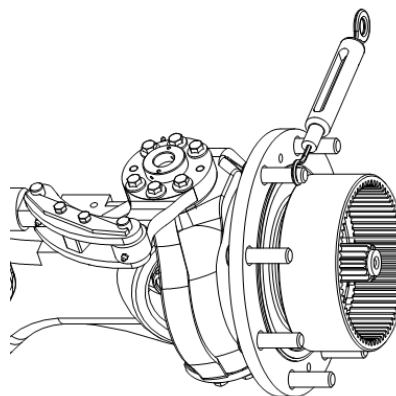

Figure 2
- (1) Install the rear axle hub assembly into steering knuckle.
- (2) Turn the hub for 2-3 laps, and make the bearing in place correctly
- (3) Install the ring gear assembly into the steering knuckle.
- (4) Mount the internal shield ring of external half shaft (No. 36) into the steering knuckle.
- (5) Coat the double end stud (No. 31) with screw fastening adhesive, and then tighten the hex nut with 100N. m torque (No. 37).
- (6) Turn the hub for 2-3 laps, and measure the starting force of the hub along the tangential direction of the hub bolt; the starting force of the hub should be 20 to 55 N as shown in Figure 2